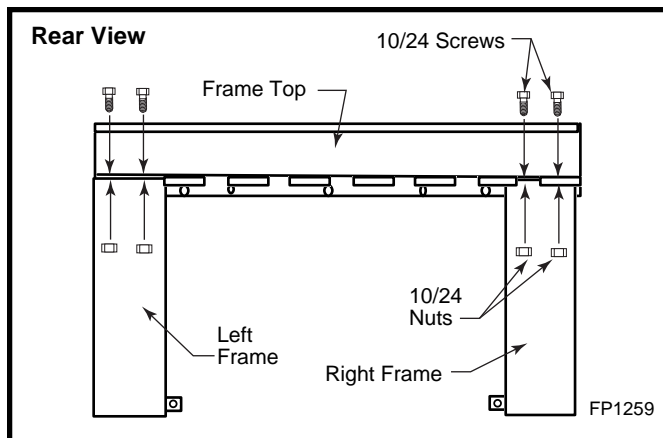

Fig. 38 Attach left and right frame to frame top.
2. Install the nuts and bolts. (Fig. 38)